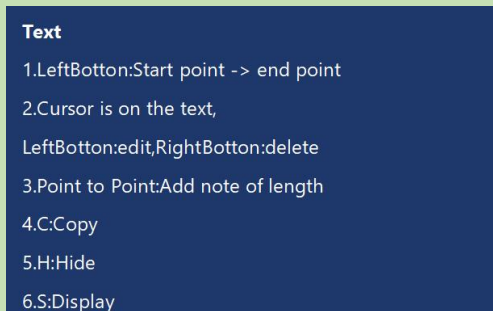

Figure 2-16
12. Text tool: Add text annotations.  (Figure 2-16)